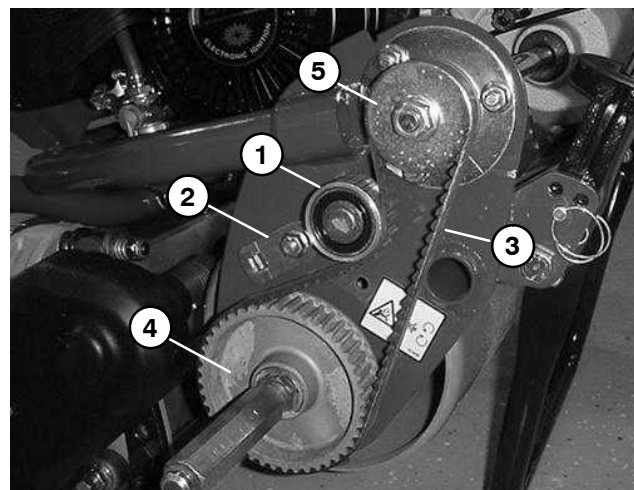
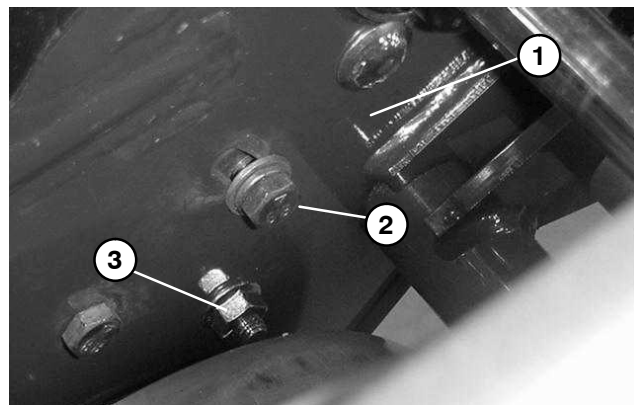

Figure 22
Figure 23
3. Remove cap screw, flat washer, belt cover, spacer (under cover), and flange nut (backside of side plate: Fig. 23) to expose the traction drive belt.
4. Loosen idler bracket cap screw on back of side plate (Fig. 23). Pivot the idler pulley away from the drive belt to loosen belt tension (Fig. 22).